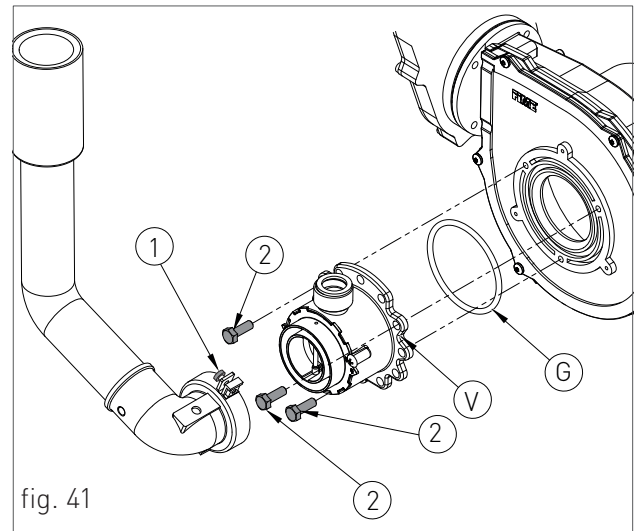
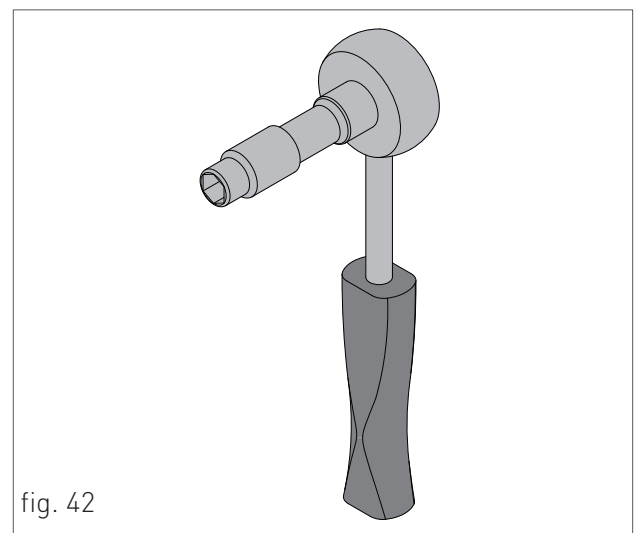

fig. 41
fig. 42
- › loosen the two screws '1' (fig. 41) from the fastening clamp, and remove the air suction tube;
- › unscrew the three fastening screws '2' (fig. 41) of the venturi 'V' (fig. 41) using a 10 key, as shown in figure 42;
- › remount the components following the demounting operations in reverse making sure that gasket 'G' is re-assembled as shown in fig. 41;